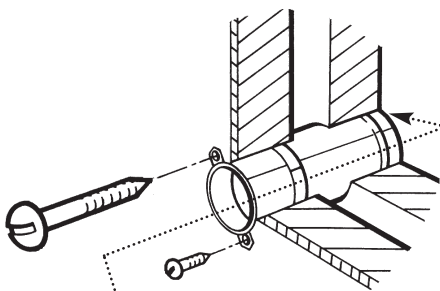

Fig. 75
9. Rotate liner back until the tags align with the holes drilled and secure it to the wall using suitable screws (Fig. 75).